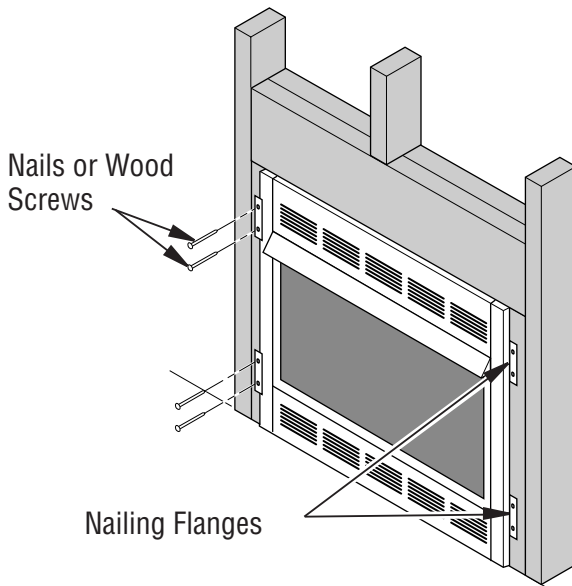

Figure 16 - Attaching Fireplace to Wall Studs
13. Attach fireplace to wall studs using nails or wood screws through holes in nailing flange (see **Figure 16, Page 12**).